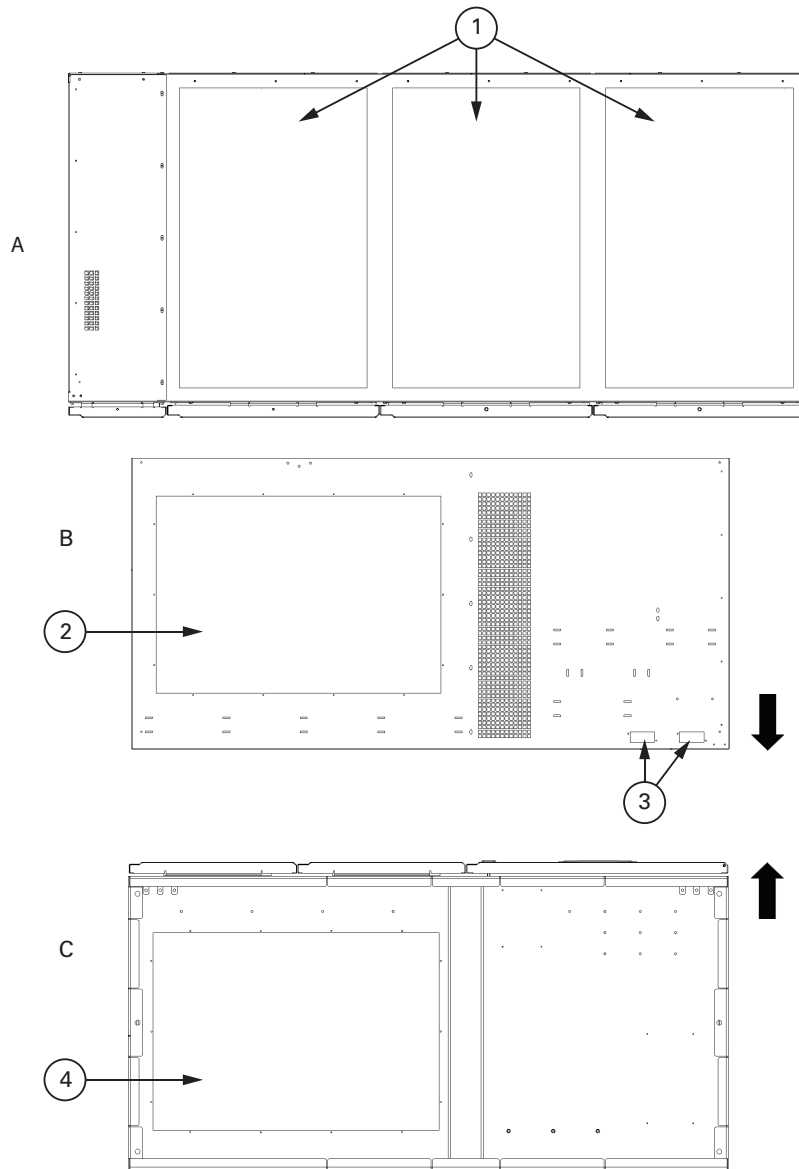
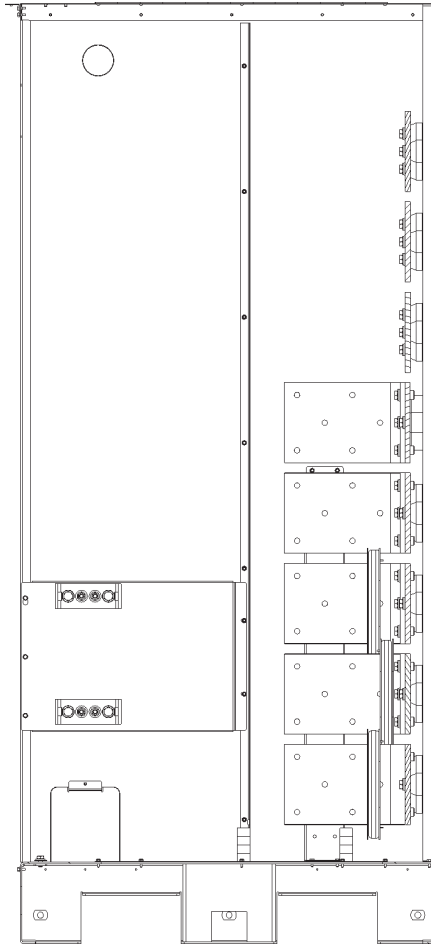
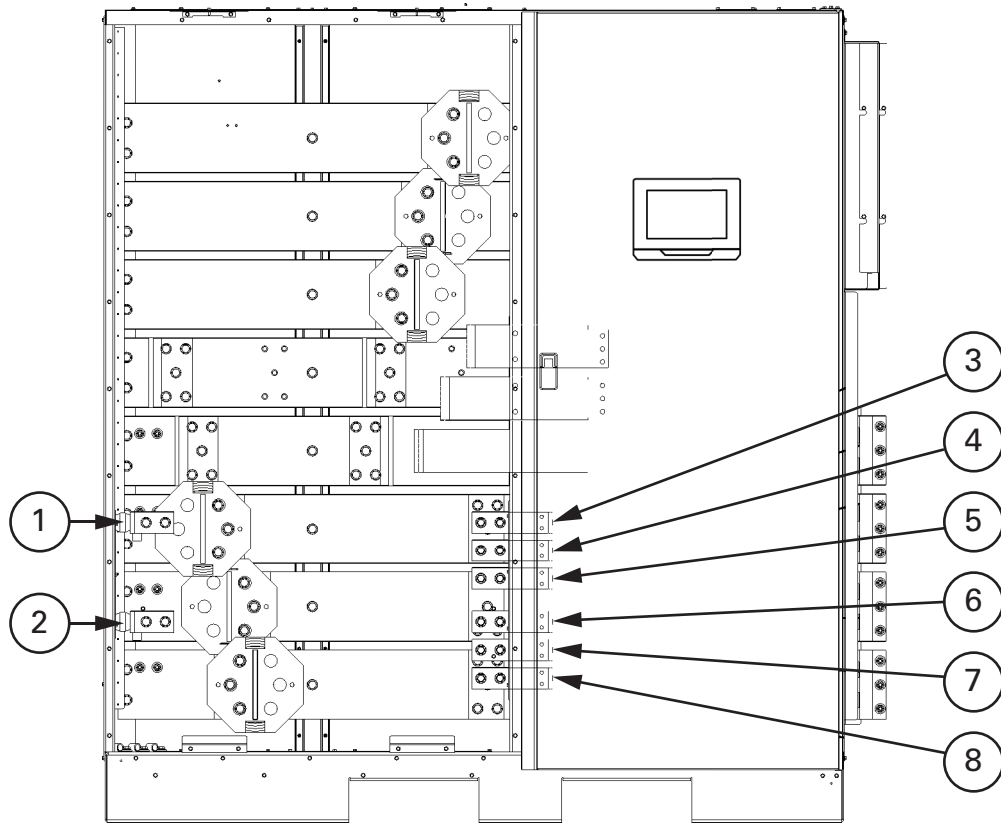

Figure 4-14. Conduit and wire entry locations
Figure 4-19. UPS ISBM section power terminal detail BB - separate battery
Figure 4-21. Front view. Separate battery configurations
Remove the UPS cabinet top or bottom conduit landing plate to drill or punch conduit holes (see Figure 4-14).
3. Route the input and output cables/busbars through either the top or bottom of the cabinet to the UPS terminals. See Figure 4-14 through Figure 4-19 for wiring access information and common rectifier feed terminal locations.
1. Route the battery cables between the UPS ISBM section and the battery system or battery disconnect. See figure Figure 4-14 through Figure 4-19 and Figure 4-21 for wiring access information and terminal locations.
5. Remove the interface entry conduit landing plates to drill or punch holes (see Figure 4-14 on page 51).